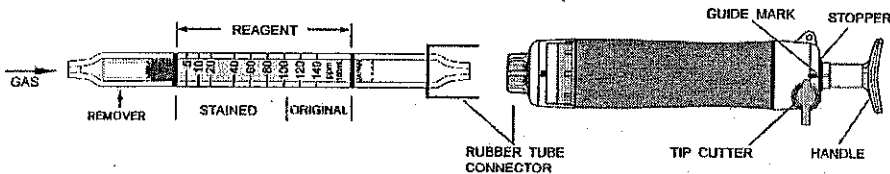

Fig.1
- ① Break both ends of the detector tube.
- ② Insert the detector tube into the aspirating pump securely as shown in Fig.1. (Arrow mark shall point to the pump.)
- ③ Align the guide marks on the shaft and stopper of the aspirating pump.
- ④ Pull the pump handle at a full stroke until it locks and wait for 1.5 minutes or until the completion of sampling is confirmed with the flow indicator of the pump (See descriptions about the flow indicator in the instruction manual of the pump).
- ⑤ On completion of sampling, read the scale at the maximum point of the stained layer.